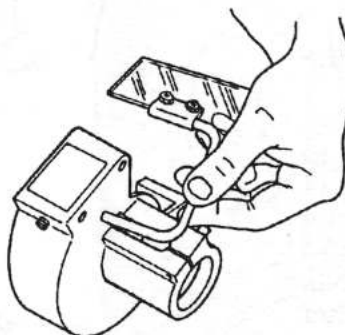

Fig. 7
7. Insert the free end of the shield bar (8) through one of the two holes in the "neck-side" of the guard, as demonstrated in Fig. 7.